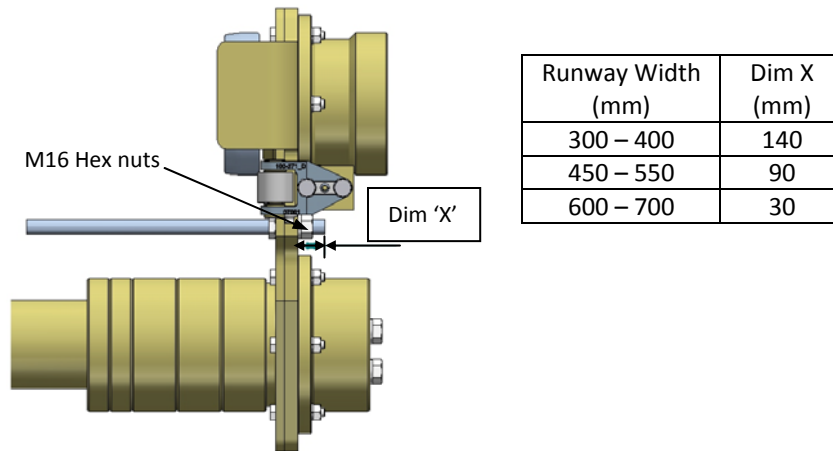

Figure 25 – Safety Bar Position
- Adjust all the trolley safety bars for the runway flange width as Figure 25 below. The safety bar is to give support to the Trolley Plate Assembly upon fitting to the hoist.
- Remove the safety bars (8) from both trolley plate assemblies, release M16 nuts and unscrew, see Figure 25.